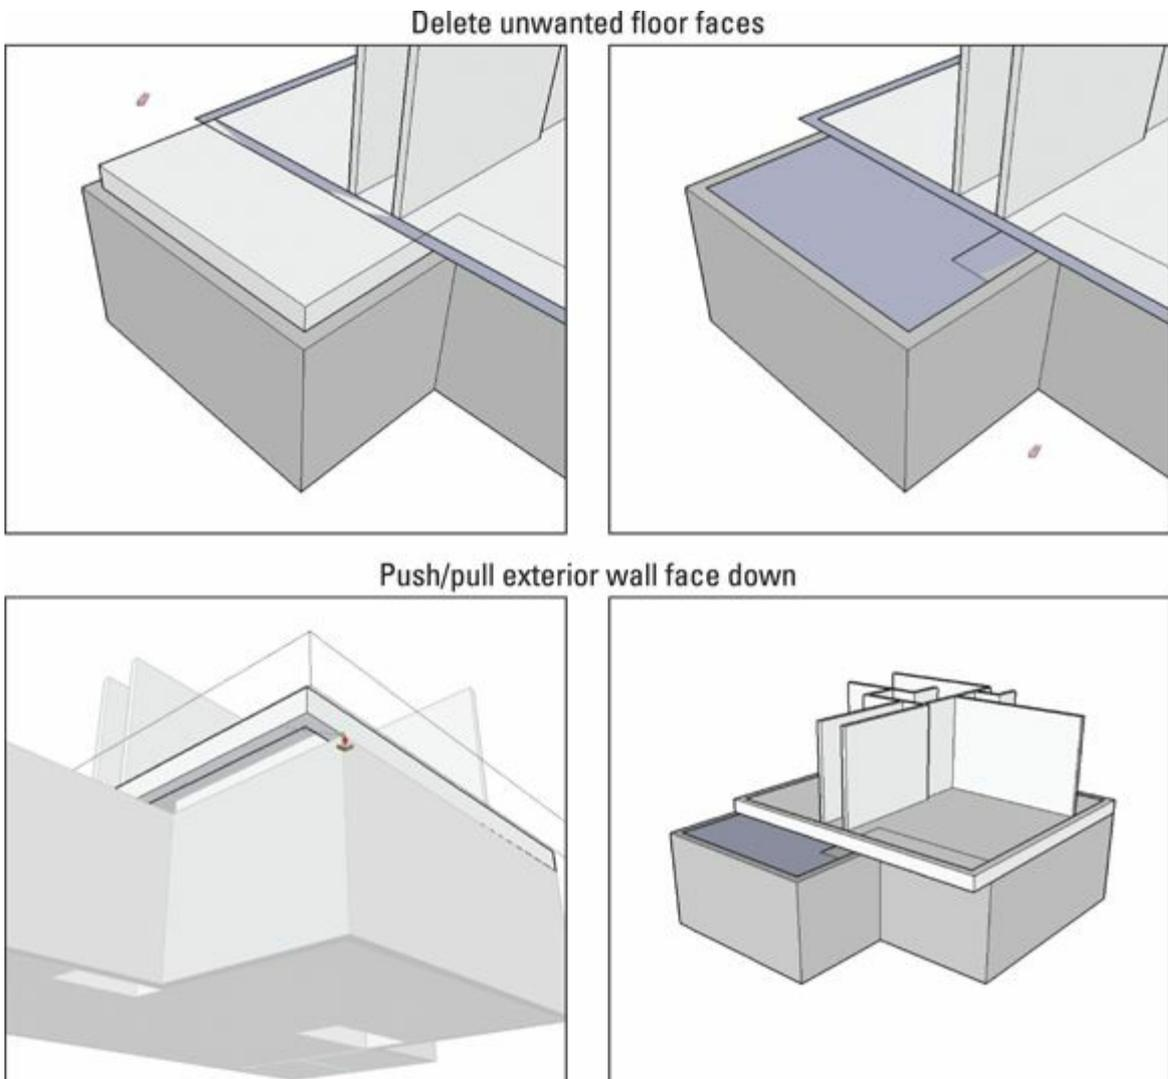

FIGURE 4-23: Delete extra floor faces; then push/pull down the walls.
For example, in Figure 4-23 (top), part of the second floor extends past the exterior wall on the left side of the figure. Double-click the group with the Select tool to edit it, and then use the Eraser to take away only the geometry that doesn't belong on your new floor, being careful to leave the ceiling that covers the first floor.
4. **Push/pull down any wall faces to meet the top of the lower floor's exterior wall. See the bottom of Figure 4-23.**